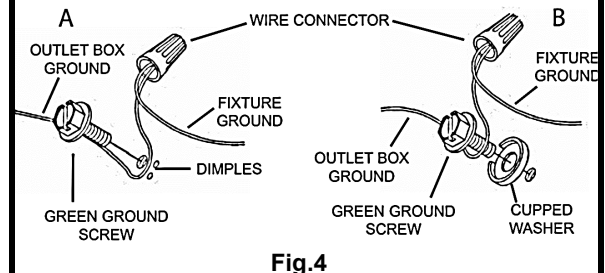

Fig.4
- (2.1) Grounding instructions: (See Fig4. A or B).